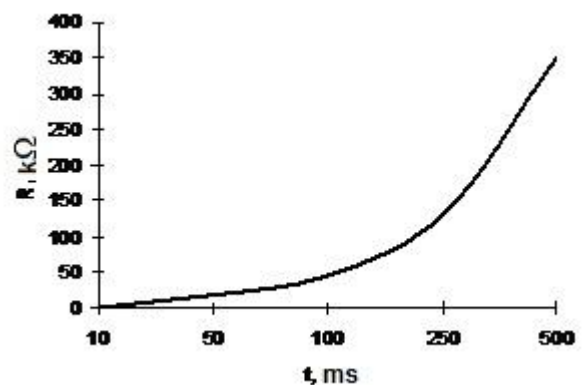

Figure 10 – Control circuit block after emergency duration versus resistance nominal  $R_{block}$
**Rblock** – adjustment resistor of circuit duration block in an emergency mode. Block duration is 1 sec in a missing resistor, in an shorted resistor is 10 ms. Initially (tuning presets at supply) the installed resistor is relevant to block duration of 100 ms. Block duration dependence from the nominal of present resistor is shown in Fig. 10.